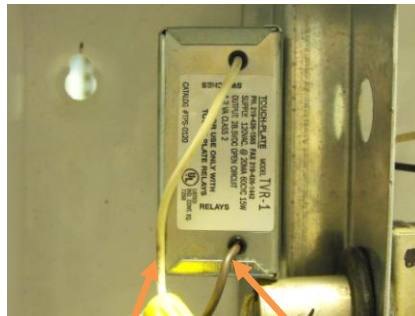

Figure 4.2
- i. Low Voltage Switch Leg from the Control Station to the Relay (1550/2500/3000/4000) - Figure 4.2